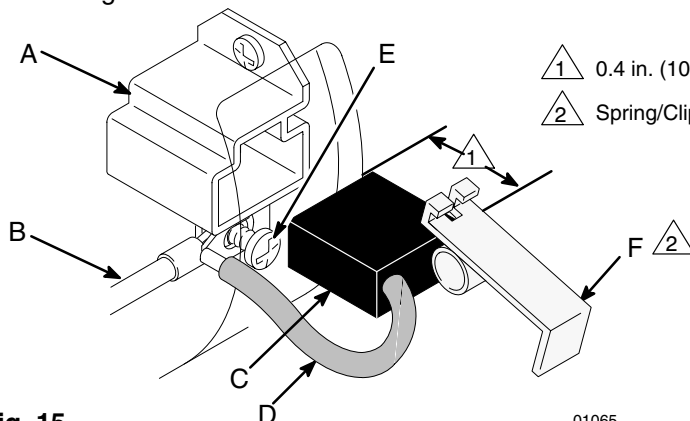

Fig. 15
3. Push in the spring/clip (F) and release its hooks from the brush holder (A). Pull out the spring/clip. See Fig. 15.
4. Loosen the brush lead terminal screw (E). Pull the brush lead (D) away, but leave the motor lead terminal (B) in place. Remove the old brush. See Fig. 15.
7. Place a new brush (C) in the holder (A). Slide the terminal under the terminal screw washer (E). Ensure the motor lead (B) is still connected at the screw. Tighten the screw. See Fig. 15.